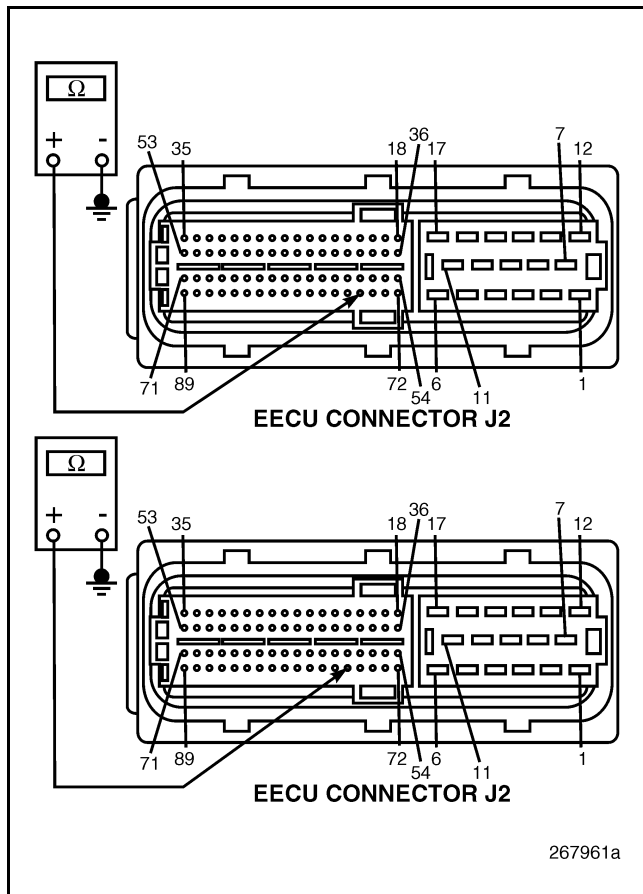

Figure 410
3. Disconnect the Engine Position (EP) Sensor.
4. Check for continuity between EECU connector J2 pin 75 and a good ground. Check for continuity between EECU connector J2 pin 76 and a good ground (see Figure 410).